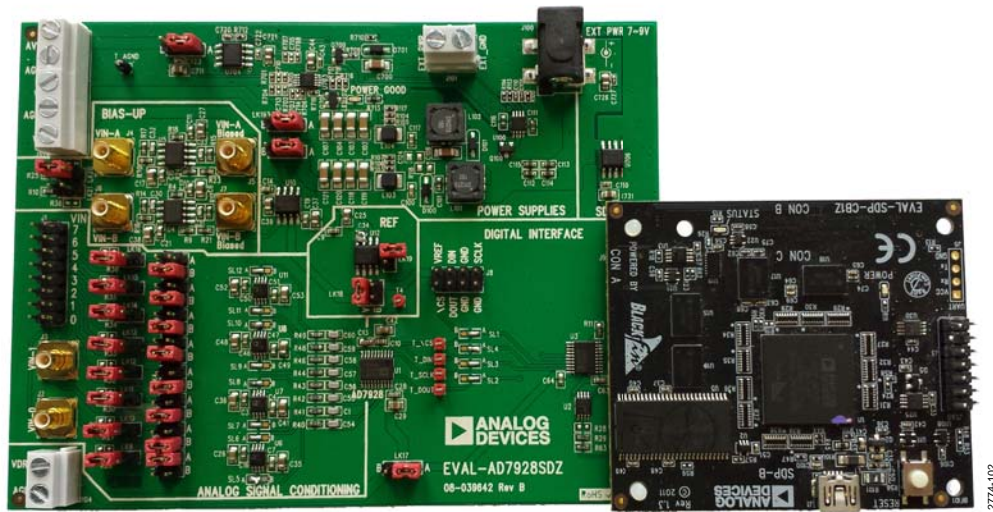

Figure 2. Evaluation Board (Left) Connected to the SDP Board (Right)
3. Connect the EVAL-SDP-CB1Z SDP board to the evaluation board as shown in Figure 2. Screw the two boards together using the enclosed nylon screw/nut set to ensure that the boards connect firmly together.
Figure 2 shows a photograph of the connections between the EVAL-AD7928SDZ daughter board and EVAL-SDP-CB1Z controller board.